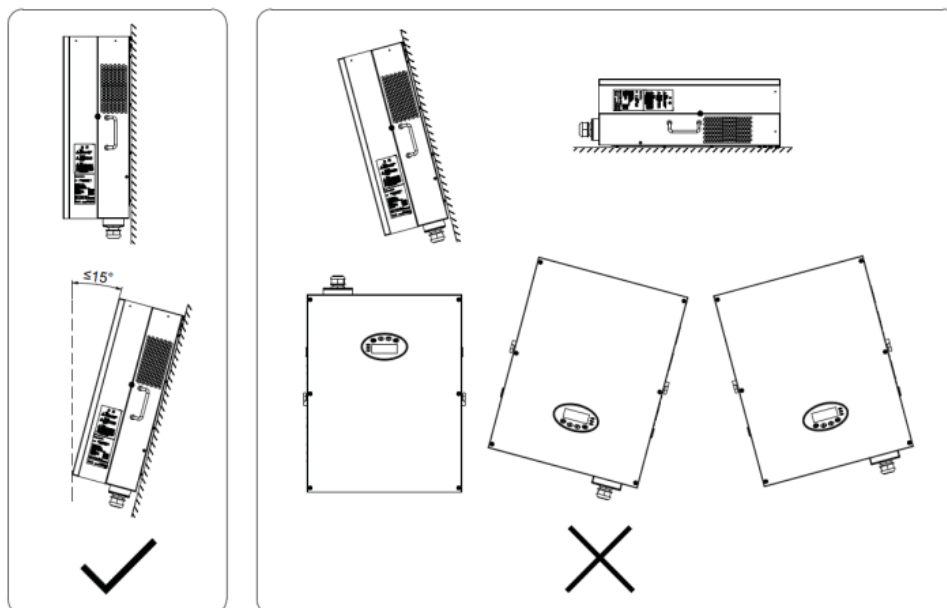

Fig 4.6 Installation position of the inverter
- (4) The ambient temperature of installation should be $-25^{\circ}\text{C}\sim 60^{\circ}\text{C}$
- (5) The installation site should be away from electronic devices which can generate strong electromagnetic interference
- (6) The inverter should be installed on firm and solid surface eg wall surface and metal bracket
(7) The installation surface should be vertical to the horizontal line, as shown in Figure 4.6. Install the inverter vertically or backward $\leq 15^{\circ}$ to facilitate heat dissipation.